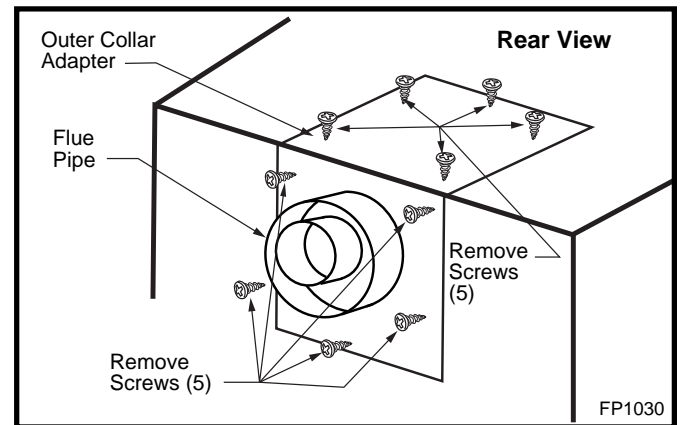

Fig. 10 Remove screws from outer collar adapter.
1. Remove the 10 screws securing outer collar adapter to fireplace. (Fig. 10)